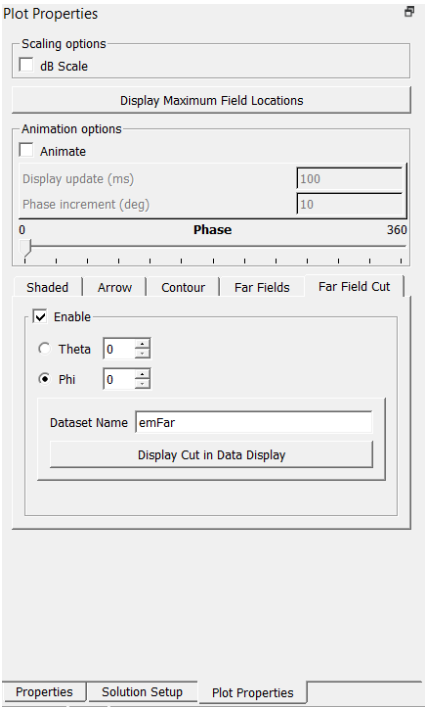

Figure 35. Edit Far Field Cut window
5. Run the simulation. The results are shown in Figure 35.